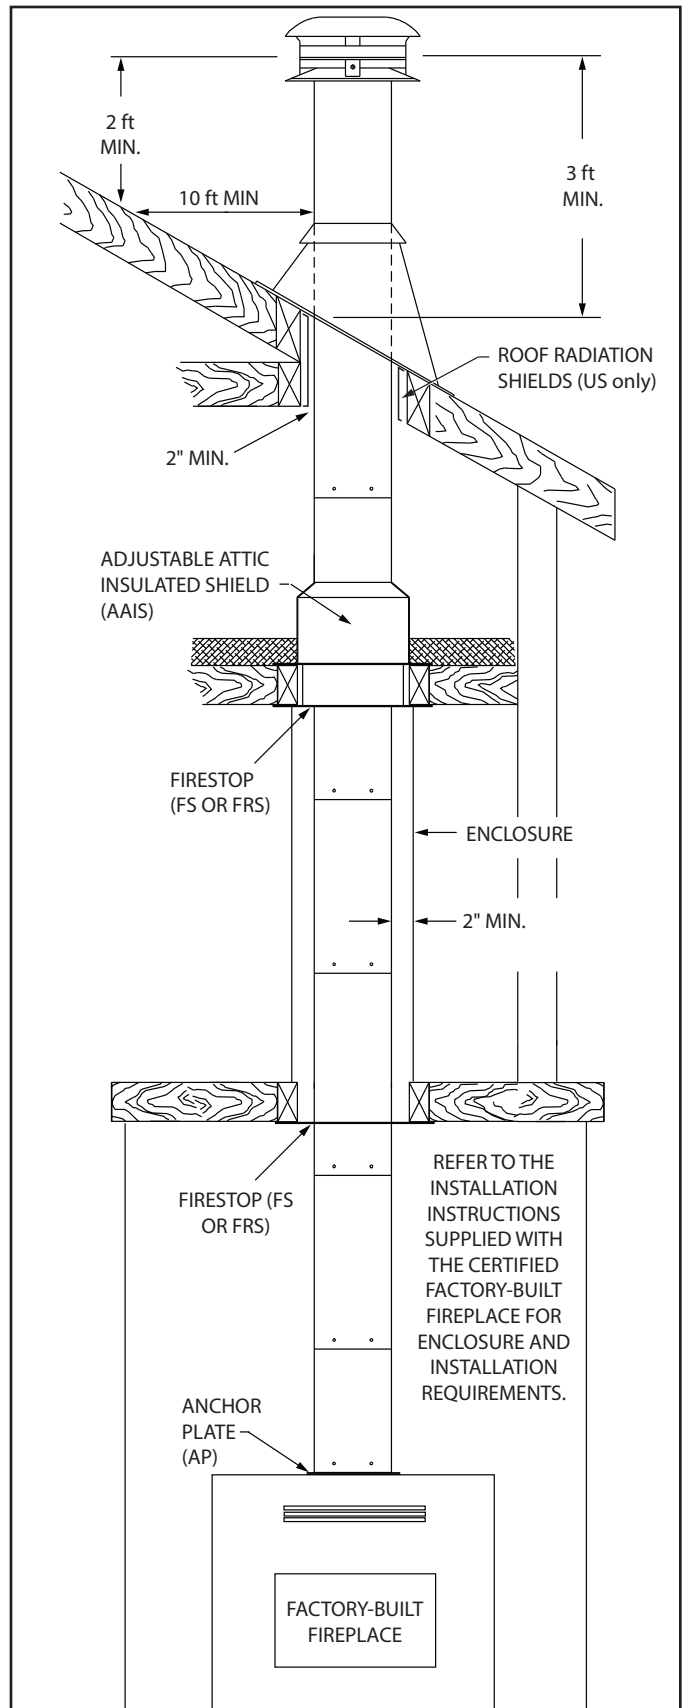

Figure 2
Install the Roof Radiation Shield in the roof joists. The shield consists of (4) metal plates supplied with the Roof Flashing. Nail these plates to each side of the joists using (2) -2 1/2" nails. See Figure 2.
(USA ONLY) Install the Roof Radiation Shield in the roof joists. This shield consists of (4) metal plates supplied with the roof flashing. Nail these plates to each side of the joist using (2) - 2 1/2" nails. See Figure 2.